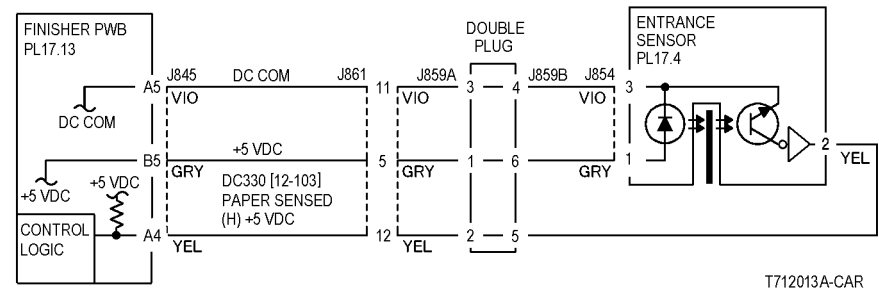
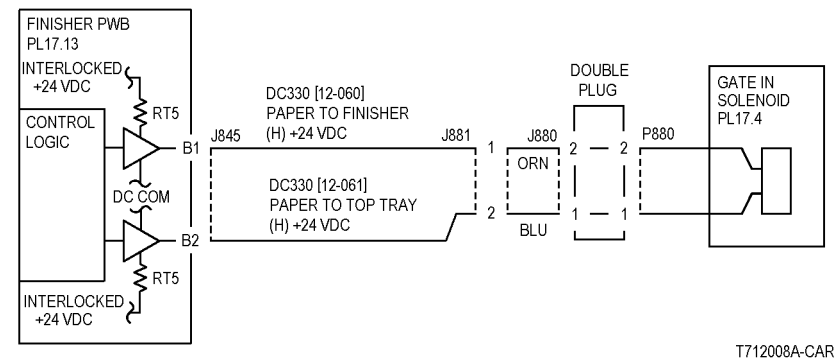
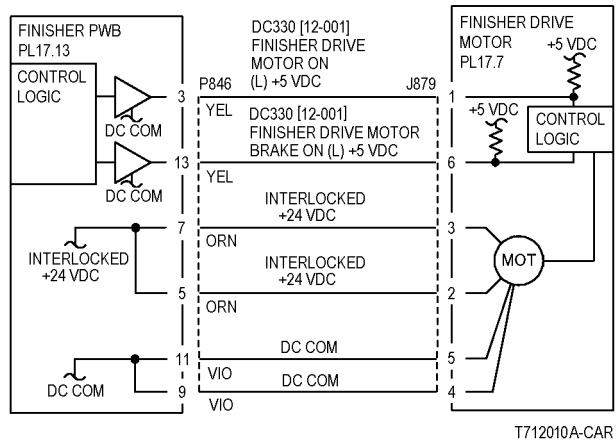

Figure 2 H Transport Entrance Sensor CD
Figure 3 Gate In Solenoid CD
Figure 4 Finisher Drive Motor CD
Press Stop. Check the circuit of the Finisher Drive Motor (**Figure 4**). Refer to the **OF 99-9 RAP** for troubleshooting procedure.
Press Stop. Check the circuit of the H Transport Entrance Sensor (**Figure 2**). Refer to the **OF 99-2 RAP** for troubleshooting procedure.
Press Stop. Check the circuit of the Gate In Solenoid (**Figure 3**). Refer to the **OF 99-4 RAP** for troubleshooting procedure.
- Ensure that the connectors shown in the circuit diagrams (**Figure 2**, **Figure 3**, **Figure 4**) are securely connected and that the wires are not damaged.
BSD-ON:12.4 **Figure 4**